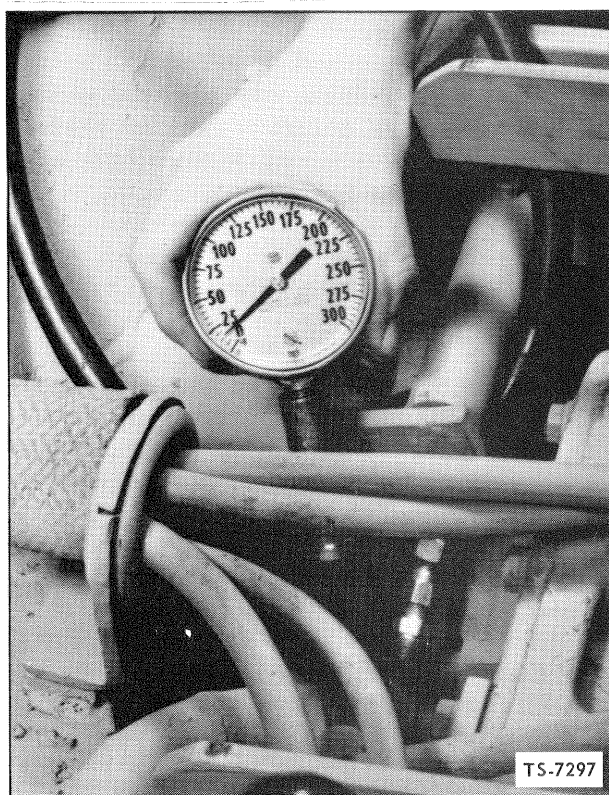

Fig. 20 Check Pressure – Oil Cooler OUT
1. Install a tachometer on the engine. Install gauges at the converter OUT pressure check point, (this reading is the same as the oil cooler IN pressure, see NOTE above) and at the oil cooler OUT pressure check point located behind the operators seat on the right hand cooler hose fitting at the back of the transmission. See Fig. 20.